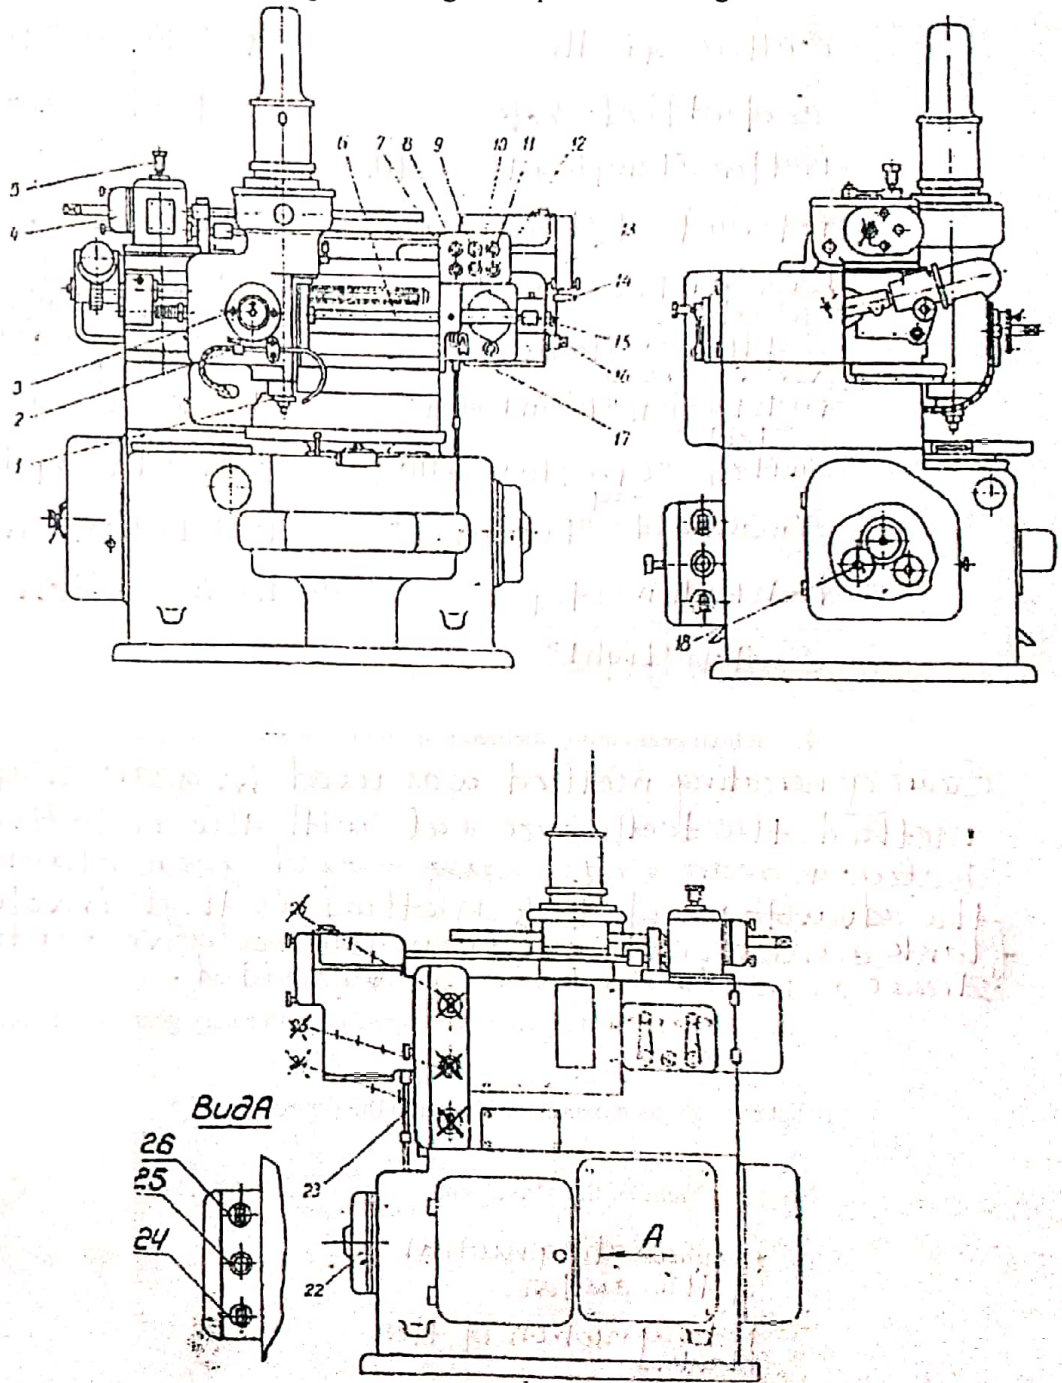

Figure 1.
3. Label the schematic diagram of the gear shaper shown in Figure 1.